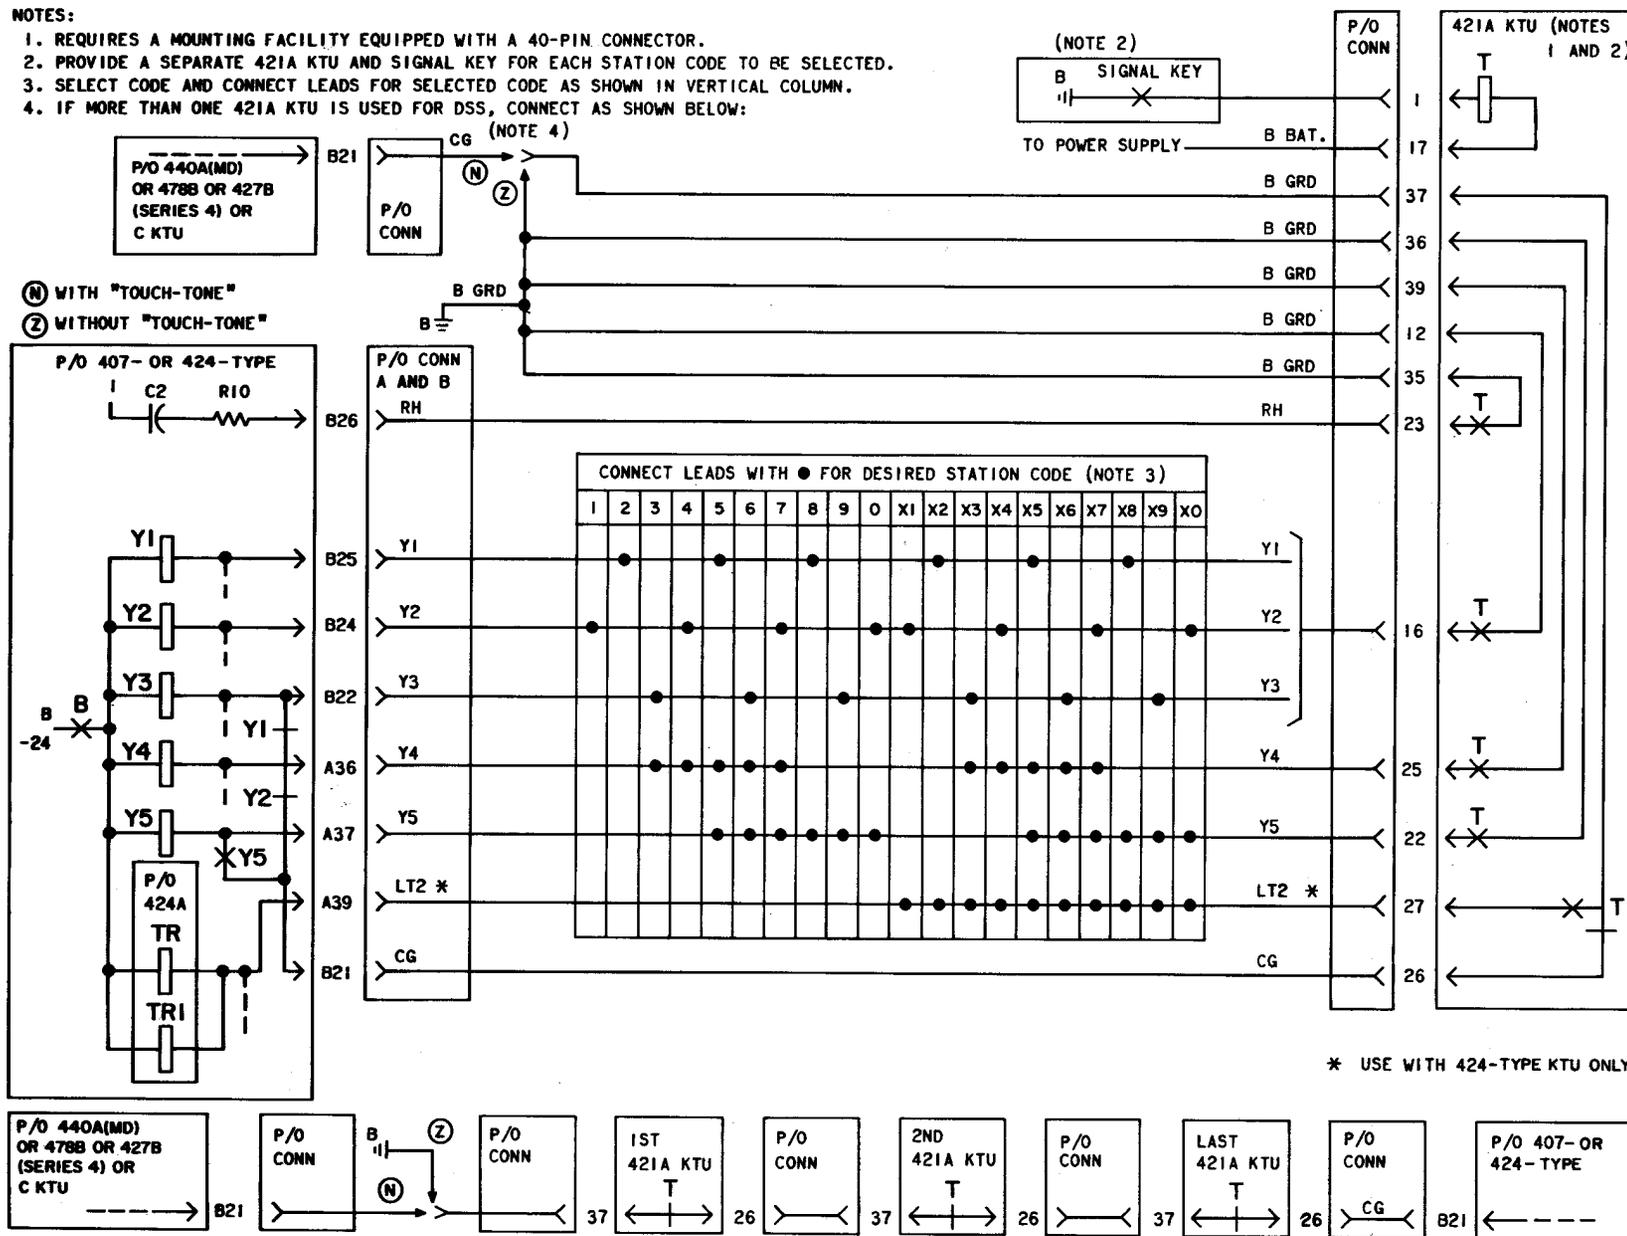

Fig. 8—Condensed Functional Schematic of 421A KTU (Wired for DSS)
3. IF DSS IS REQUIRED, SEE FIG. 8
- IF DSS IS REQUIRED, SEE FIG. 8.
- 440A(MD) OR 478B KTU MAY BE USED TO PROVIDE TOUCH DIALING IN PLACE OF 426A WITH 427B (SERIES 4) OR C KTUS.